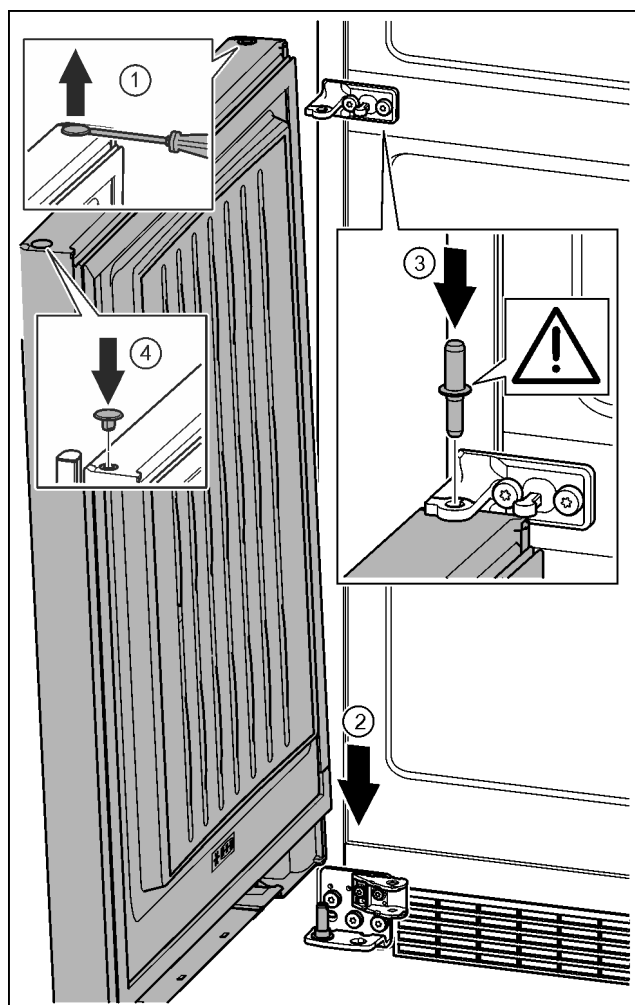

Fig. 35
- Carefully lift up the plugs with a slotted screwdriver and remove them. Fig. 35 (1)
- Position the door from above onto the lower bearing pins. Fig. 35 (2)
- Insert the centre bearing pin through the centre bearing bracket into the lower door. Make sure that the catch mechanism is pointing to the rear. Fig. 35 (3)
- Insert the plugs again on the other side of the door. Fig. 35 (4)